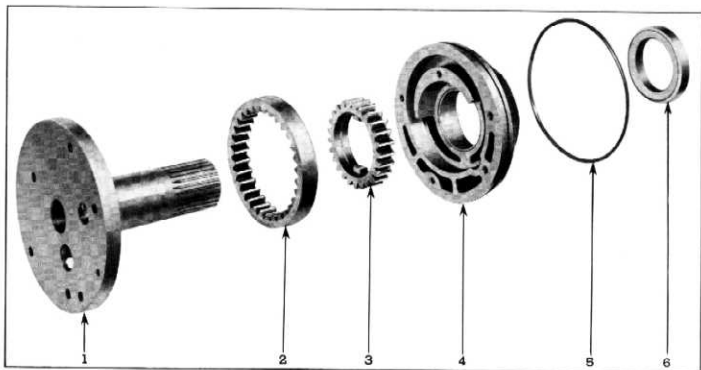

Fig. 184—Layout of Front Pump
4. Figure 184 shows layout of front pump parts.